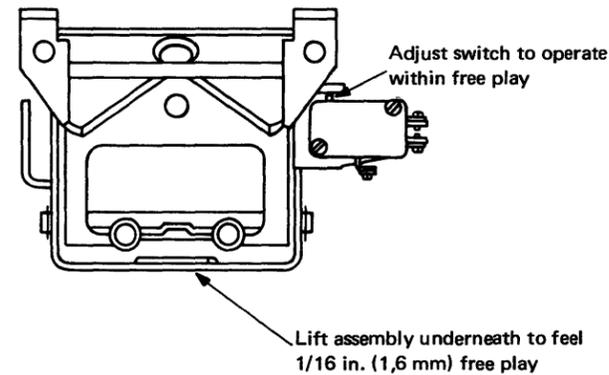

Figure 2-16. Adjusting Cartridge Interlock Switches [07541]
4. In turn, lift the toggle spring assembly for each arm (Figure 2-16) and feel the free play of 1/16 in. (1,6 mm). Adjust each interlock switch to operate in both directions within the free play, then tighten the switch screws.